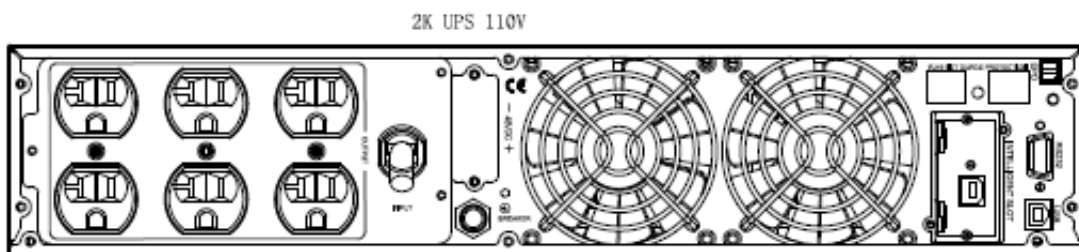

FIG.18
- **Relay Interface Card** - has isolated dry contact relay outputs for UPS status: Utility failure, Low battery, UPS alarm/OK, or On bypass. See FIG. 18, 19 for the location of the communication bay.